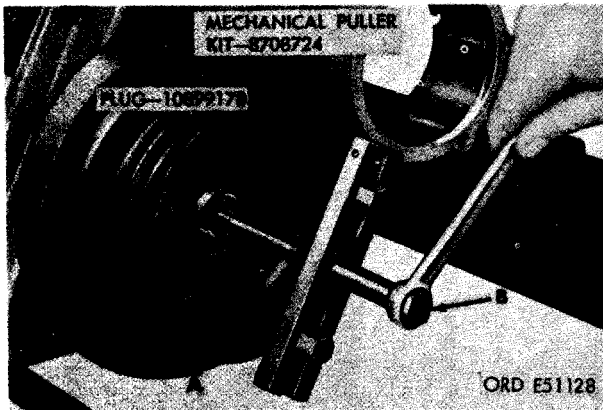

FIGURE 287. REMOVING CRANKSHAFT DAMPER AND PULLEY ASSEMBLY USING MECHANICAL PULLER KIT - 8708724 AND PLUG - 10899178.
(2) Figure 287. (A) Install 3/8-16 puller screws of mechanical puller kit - 8708724 into the puller screw holes. Insert small end plug - 10899178 in threaded end of crankshaft and run puller jack screw against plug. (B) Pull crankshaft damper and pulley assembly from crankshaft.